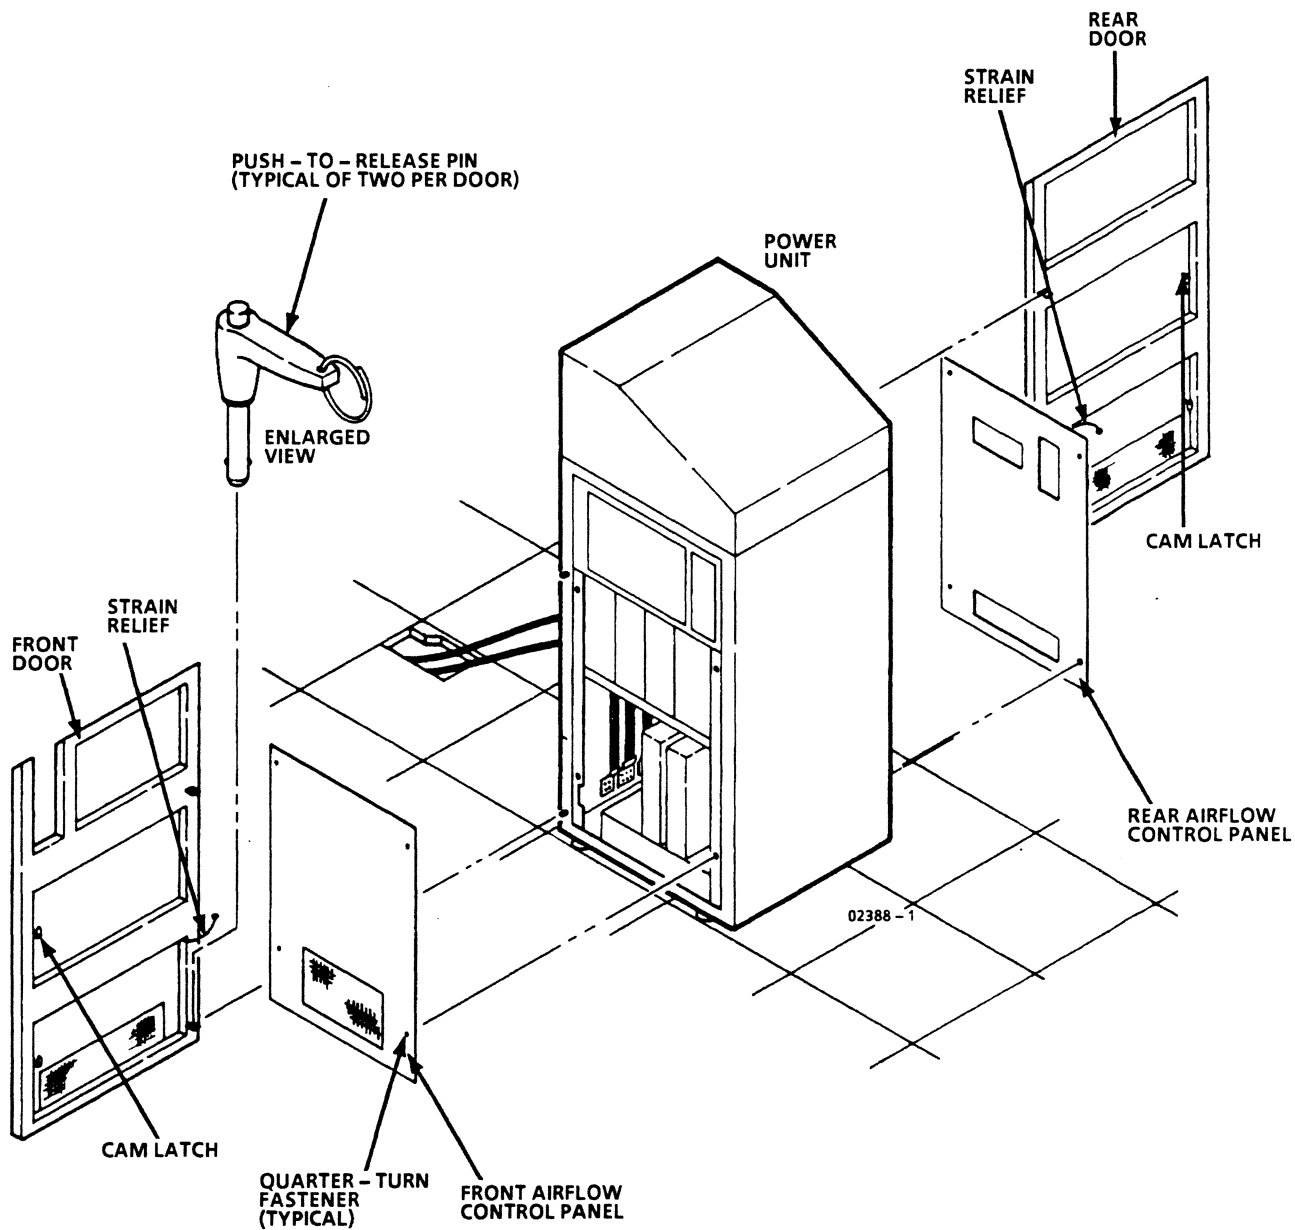

Figure 2-5. Power Unit Door and Panel Removal
- ___ 5. Remove front and rear doors (figure 2-5) after unscrewing one end of strain relief and removing two push-to-release pins from hinges on each door. Store pins in door hinges.